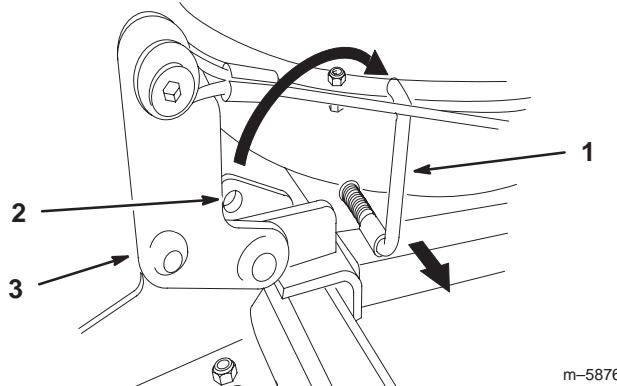

Figure 29
4. With the bagger open, pull out the holding pin and insert into the hole in the hinge (Fig. 29).